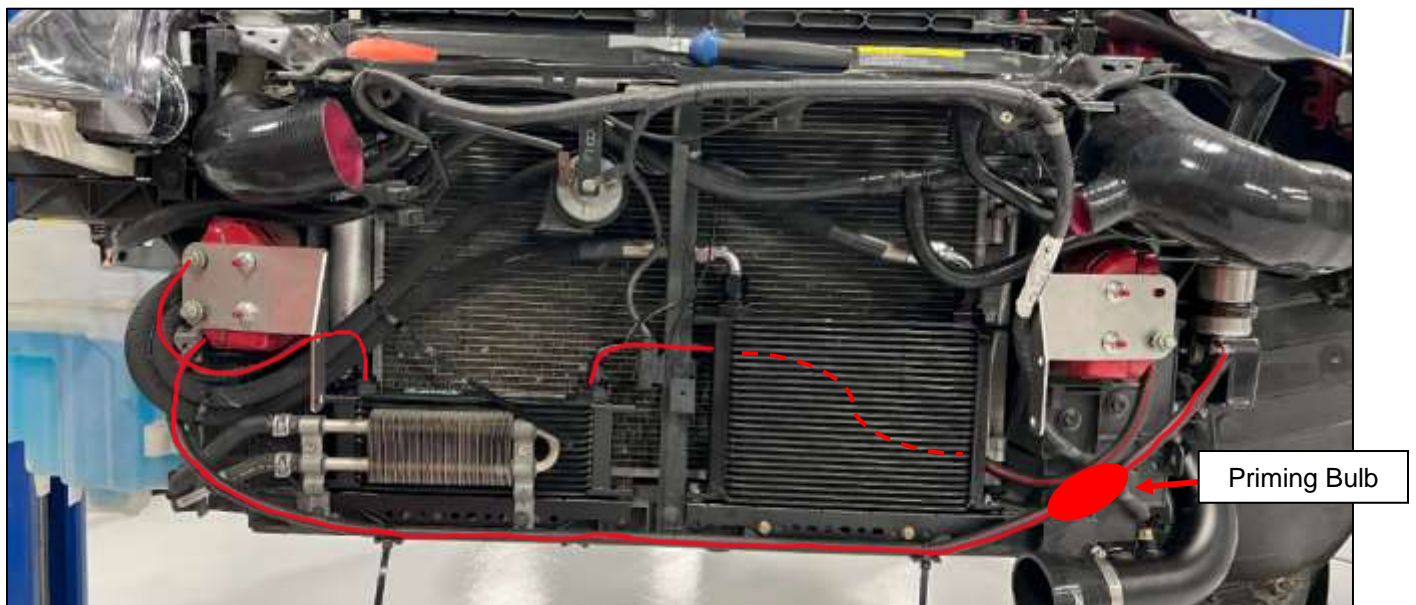

Figure 38
14. The Rotrex Oil System will need to be plumbed just like the diagram below. Using the provided 25' of 5/16" hose, cut appropriate lengths and install the hose onto all of the Rotrex Oil System components, with a gray spring clamp at each connection. The ports on the Rotrex Supercharger Unit are marked "IN" or "OUT". *Figure 38.*